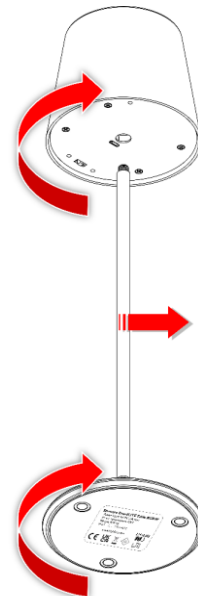

Fig. 05
- 01) Turn the **lamp head (02)** counterclockwise to remove it from the **lamp stem (03)**, as shown in Fig. 05.
- 02) Turn the **baseplate (06)** counterclockwise to remove it from the **lamp stem (03)**, as shown in Fig. 05.
- 03) Insert one end of the extension pole into the **threaded opening (08)** on the **lamp head (02)** and turn it clockwise to fit it in position.
- 04) Insert the other end of the extension pole into the **threaded opening (05)** on the **baseplate (06)** and turn it clockwise to fit it in position.